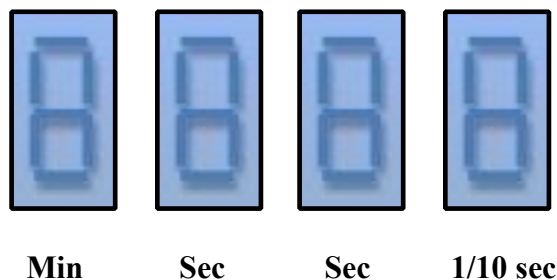

Figure 1. Stopwatch 4-digit display. Minutes can go up to 9 and rolls over to 0 after that.
- A stopwatch is a device that is designed to measure the amount of time elapsed from a particular time when activated to when it is deactivated. In its simplest form, a stopwatch contains digits of numbers counting up in a predetermined format and it employs a switch/button to start or pause the counting operation. You are required to design an accurate 10 minute-stopwatch with the digits shown in Figure 1. The design should have an asynchronous clear and a pause/start count button/switch to control the device. Since four of the 7-segment displays on the boards will be used simultaneously, you are required to multiplex the inputs to each display, similar to what we did in Lab 2. Set the refresh rate of each display to about 50 times per second. This means that you need to shift the enabled 7-segment display every 5 ms. In addition to these stopwatch functions, your design should also have a blinking mode that is controlled by a switch. When this mode is on, the displays should blink at a rate of 1 Hz when the stopwatch is paused.